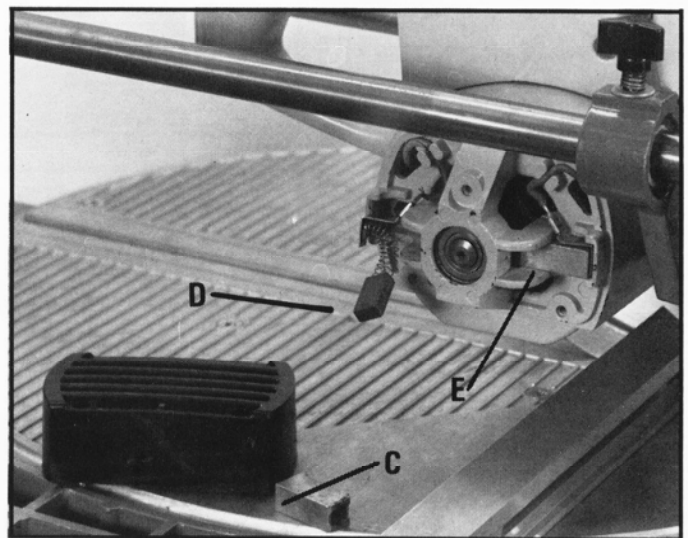

Fig. 79
5. Fig. 79, illustrates brush holder (C) removed from brush.
6. If the brush (D) Fig. 79, is not worn to less than 3/16 inch in length and the spring and shunt wire (E) are neither burned nor damaged in any other way, reinstall the brush assembly in the same position as removed. Do not turn it over. Make sure it slides freely in its holder.
7. Inspect the other brush assembly (E) Fig. 79, in the same manner. If the brushes on either assembly is worn to less than 3/16 inch in length and/or either spring and/or shunt wire is burned or damaged in any other way, replace both brushes. When new brushes are installed, make sure they slide freely in their holders.